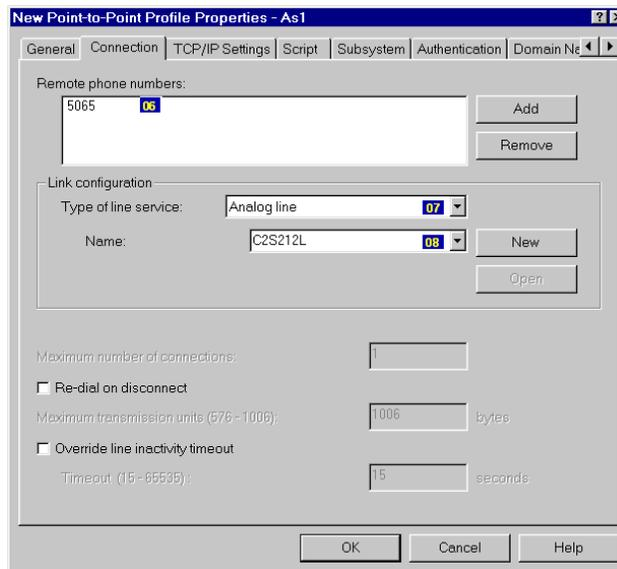

Figure 15. Creating a connection using the Connection tab
3. Select and configure the **Connection** page (Figure 15) of the PPP profile.
8. Click **OK**. The page shown in Figure 15 on page 27 appears again.